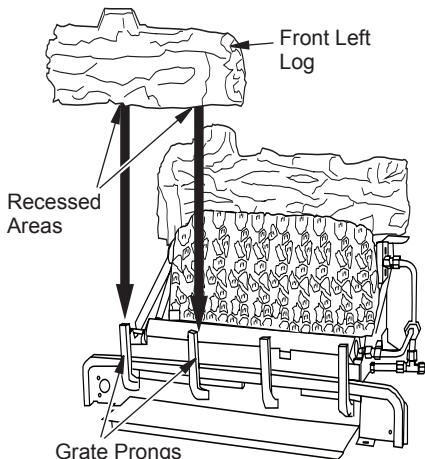

Figure 30 - Installing Front Left Log
- Position front left log against left side of grate prongs (see Figure 30). The two recessed areas fit behind the two grate prongs.